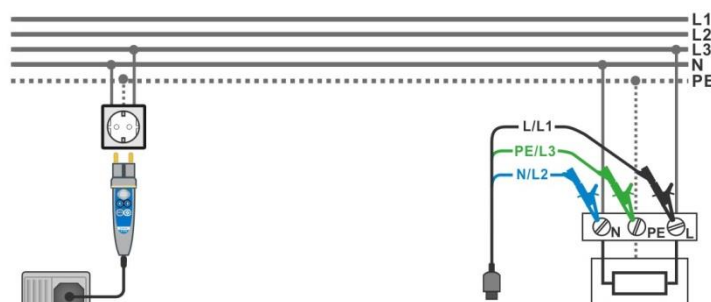

Figure 7.91: AUTO TN measurement
- › Connect test leads or Plug commander to the object under test, see **Figure 7.91**.